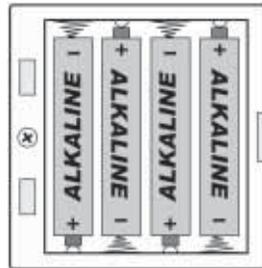

Fig. 1
To fit new batteries, open the safe, the battery compartment is found on the back of the door. Slide the cover off in direction indicated, replace batteries observing correct polarity Fig. 1, refit cover and test before closing door.
- Install four 1.5 volt batteries, observing the correct polarity Fig. 1, It is recommended to use Alkaline batteries, DO NOT use rechargeable batteries.